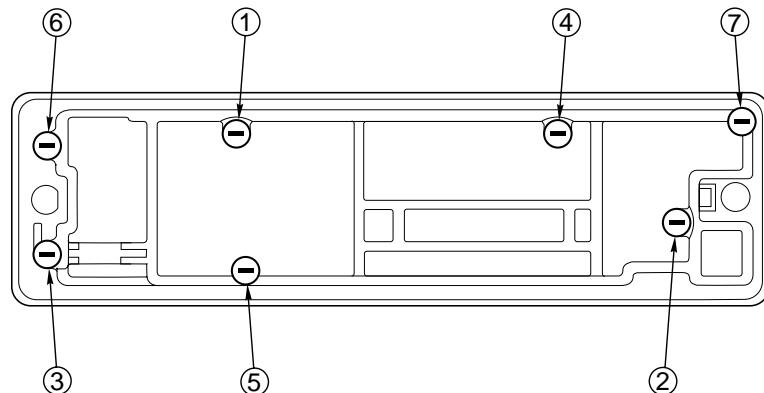

Figure 5-3. Models W5 and W7 Pushbutton Control Head Assembly Screw Sequence
- W5 and W7 Control Heads: seven screws, as shown in Figure 5-3.